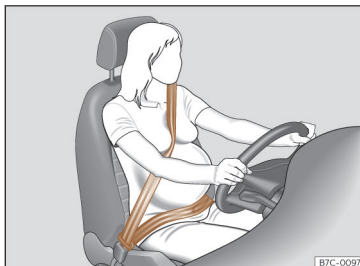

Fig. 24 Position of seat belt during pregnancy.
In the case of **pregnant women**, the seat belt should pass uniformly over the chest and as low as possible over the pelvic area with the strap flat so it does not press down on the abdomen; in addition, it must be used throughout the entire pregnancy >>> **Fig. 24**.
- In the case of pregnant women, the abdominal strap of the seat belt should pass as low as possible across the pelvic area, resting flat and “surrounding” the abdomen >>> Fig. 24.